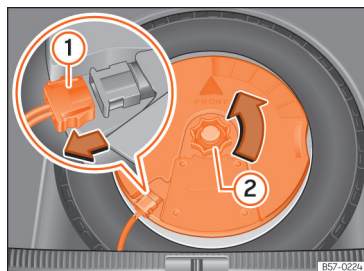

Fig. 311 In the boot: remove the subwoofer.
- Disconnect the subwoofer »» Fig. 311 ①
- Turn the securing wheel in an anti-clockwise direction »» Fig. 311 ②.